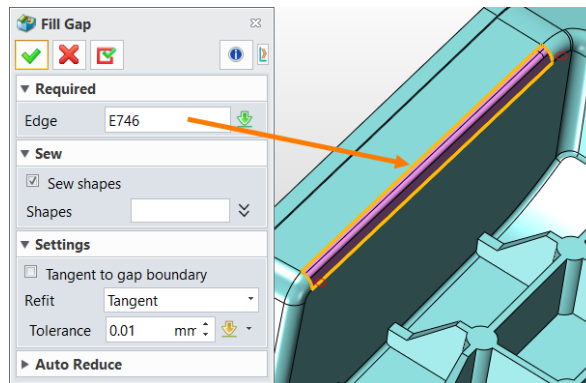

Figure 12 Continue to Fill Gap
STEP 12 *Zoom to* another open edge. Use **Fill Gap** command, then pick the open edge. Setting is shown as Figure12.